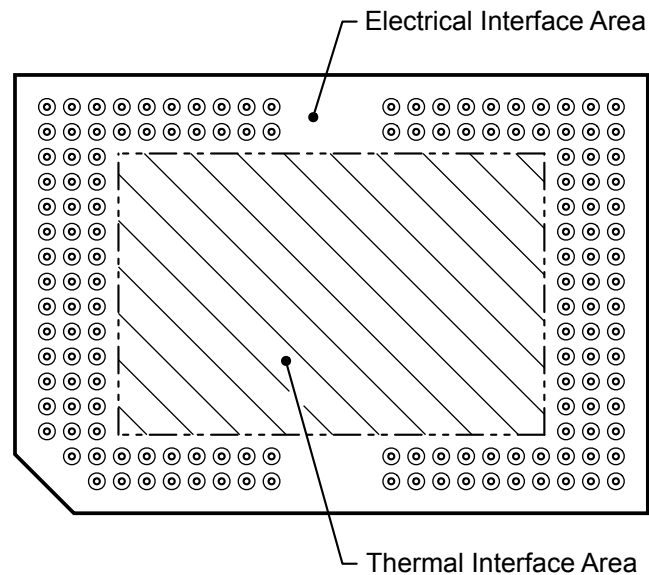

Figure 6-14. System Mounting Interface Loads
(1) The load should be applied uniformly in the corresponding areas show in Figure 6-14.